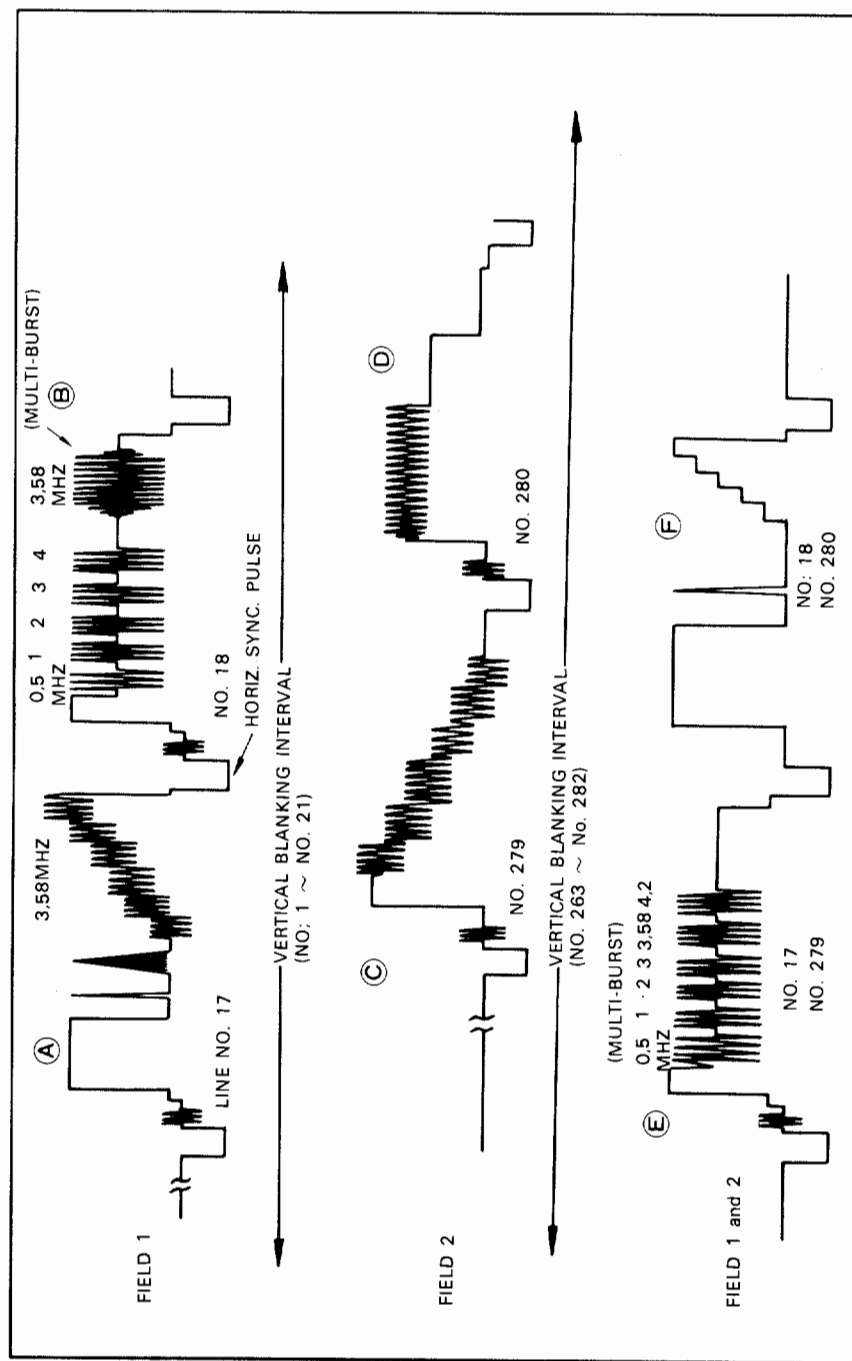

Fig. 11 VITS signal, Fields 1 and 2
Many television servicing procedures can be performed using single-trace operation. These are outlined later in the application section covering single-trace operation. One of these procedures, viewing the multi-burst signal in the VITS (vertical interval test signal), can be accomplished more effectively using a dual-trace oscilloscope. The VITS signal is specifically used for characteristic checks of the transmission system of a broadcast station or a network including repeater stations or for changeover of transmission system. In many cases, this signal does not appear in the normal video signals. Even when it is included in the signal, the method of inserting the information differs depending on the broadcast station. Also, the VITS information in Field 1 (1st interlaced scanning) and Field 2 (2nd interlaced scanning) are different in many cases. Examples of VITS signals are shown in Fig. 11.
The transmitted VITS has a specific frequency, amplitude and waveform as shown in Fig. 11. Television networks use precise signals for adjustment and checking of network transmission equipment, but the multi-burst signal in VITS can also be used for checking the operating condition of TV sets. The first frame of VITS at the "B"
section (line 18) in Fig. 11 begins with a white reference signal, followed by sine wave frequencies of 0.5 MHz, 1.0 MHz, 2 MHz, 3 MHz, 4.0 MHz and 3.58 MHz. This sequence of frequencies is called a "multi-burst" which is very useful.
9. Set the SWEEP TIME/DIV control to the 0.1ms/div position to expand the display. The VITS information will appear toward the right hand portion of the expanded waveform displays. The waveform information on each trace may appear as shown in Fig. 11. Because there is no provision for synchronizing the oscilloscope display to either of the two fields which comprise a complete vertical frame, it cannot be predicted which field display will appear on CH1 or CH2.
10. Pull the POSITION control outward to obtain an additional X5 magnification. Rotate the control moving the trace to the left until the expanded VITS information appears as shown in Fig. 11. Because of the low repetition rate and the high sweep speed combination, the brightness level of the signal displays will be reduced.